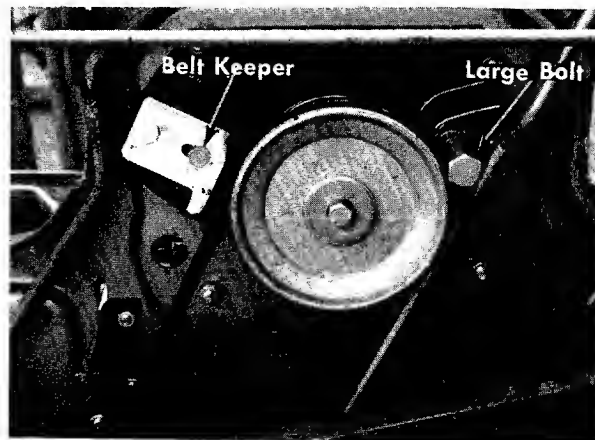

FIGURE 26. BELT KEEPER
- Step 2. Remove the belt keeper and large bolt on the engine pulley. See figure 26.
Step 2. Remove the belt keeper and large bolt on the engine pulley. See figure 26.